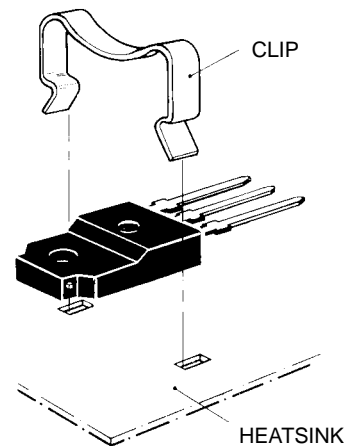

Figure 27. Clip-Mounted Isolated Package
The popular TO-220 Package and others of similar construction lift off the mounting surface as pressure is applied to one end. (See Appendix B, Figure 36.) To counter this tendency, at least one hardware manufacturer offers a hard plastic cantilever beam which applies more even pressure on the tab.(6) In addition, it separates the mounting screw from the metal tab. Tab mount parts may also be effectively mounted with clips as shown in Figure 27.
The isolated, (Case 221C, 221D, and 340B) permits the mounting procedure to be greatly simplified over that of a standard TO-220. As shown in Figure 27, one properly chosen clip, inserted into two slotted holes in the heatsink, is all the hardware needed. Even though clip pressure is much lower than obtained with a screw, the thermal resistance is about the same for either method. This occurs because the clip bears directly on top of the die and holds the package flat while the screw causes the package to lift up somewhat under the die. (See Figure 36 of Appendix B.) The interface should consist of a layer of thermal grease or